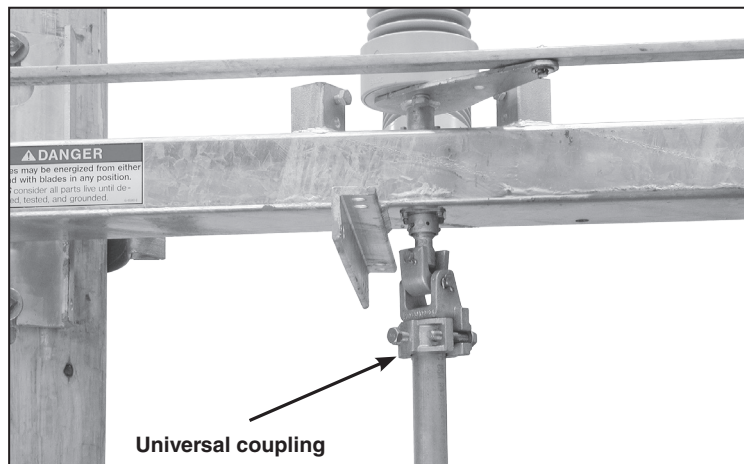

Figure 21. Install the uppermost section of the vertical operating pipe.
STEP 20. Insert the uppermost section of the vertical operating pipe into the universal coupling attached to the underside of the switch assembly. See Figure 21. Back the piercing set screw out of the body of the pipe coupling before tightening the coupling clamp bolts.